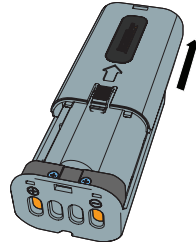

Figure 13
4. Slide the covers off the battery cases and insert three “AA” alkaline batteries into each case according to the polarity illustrated inside. (Figure 13)